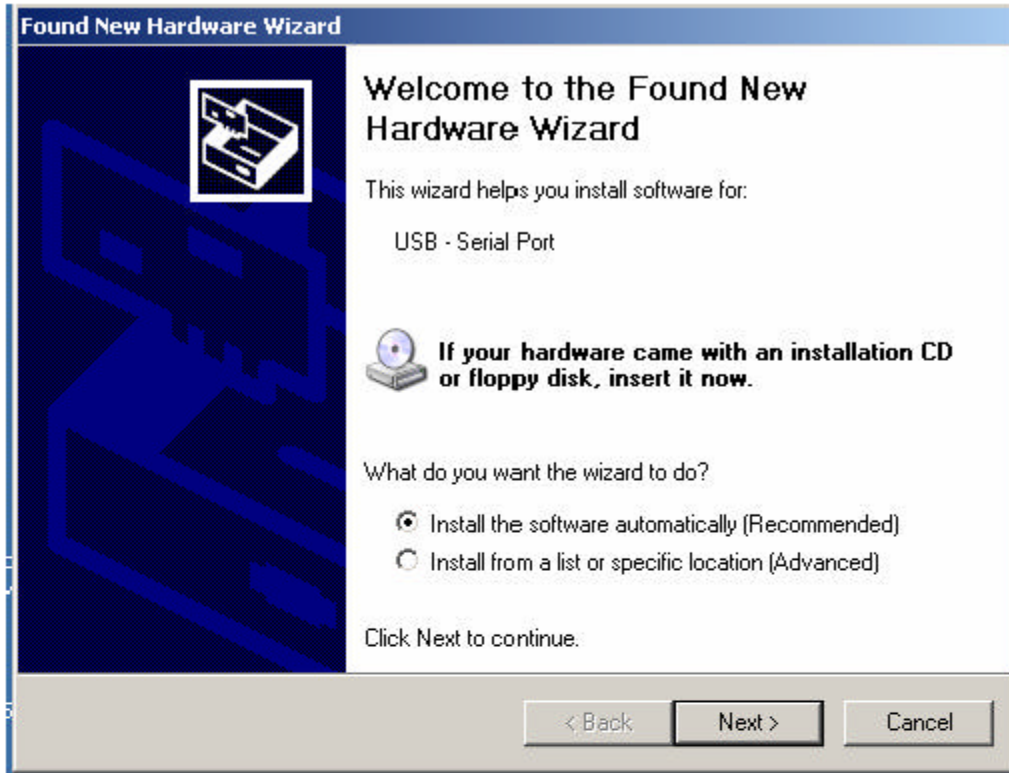

Figure 9 - Found New Hardware (USB – Serial Port)
**STEP 3:** Windows displays the Found New Hardware dialog box (USB-Serial Port). Select the “Install the software automatically” option and click on “Next” in Figure 9